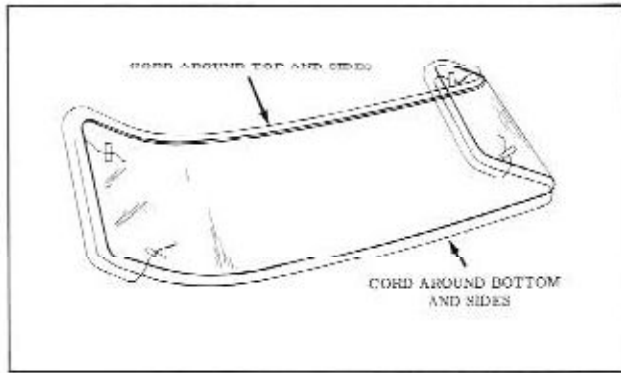

Fig. 17-87 Back Window Cord Installation
4. Install rubber channel to glass. Insert a strong cord into pinchweld cavity of rubber channel from lower corner of one side around top of lower corner of opposite side; then insert another cord from upper corner of one side around bottom to upper corner of opposite side. (Fig. 17-87) Tape ends of cords to inside surface of glass.